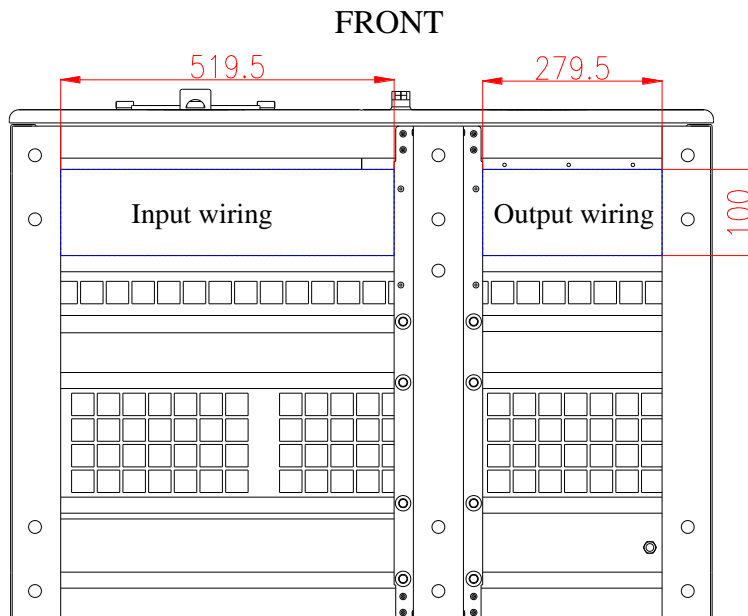

Figure3-11 Bottom wiring diagram
Step 2 Open the front door, and then dismantle two bottom cover plate with honeycomb holes of AD side and DC side. The bottom wiring of the inverter is as shown in Figure3-11. After connecting the wires of output, paint fireproofing mud to seal.